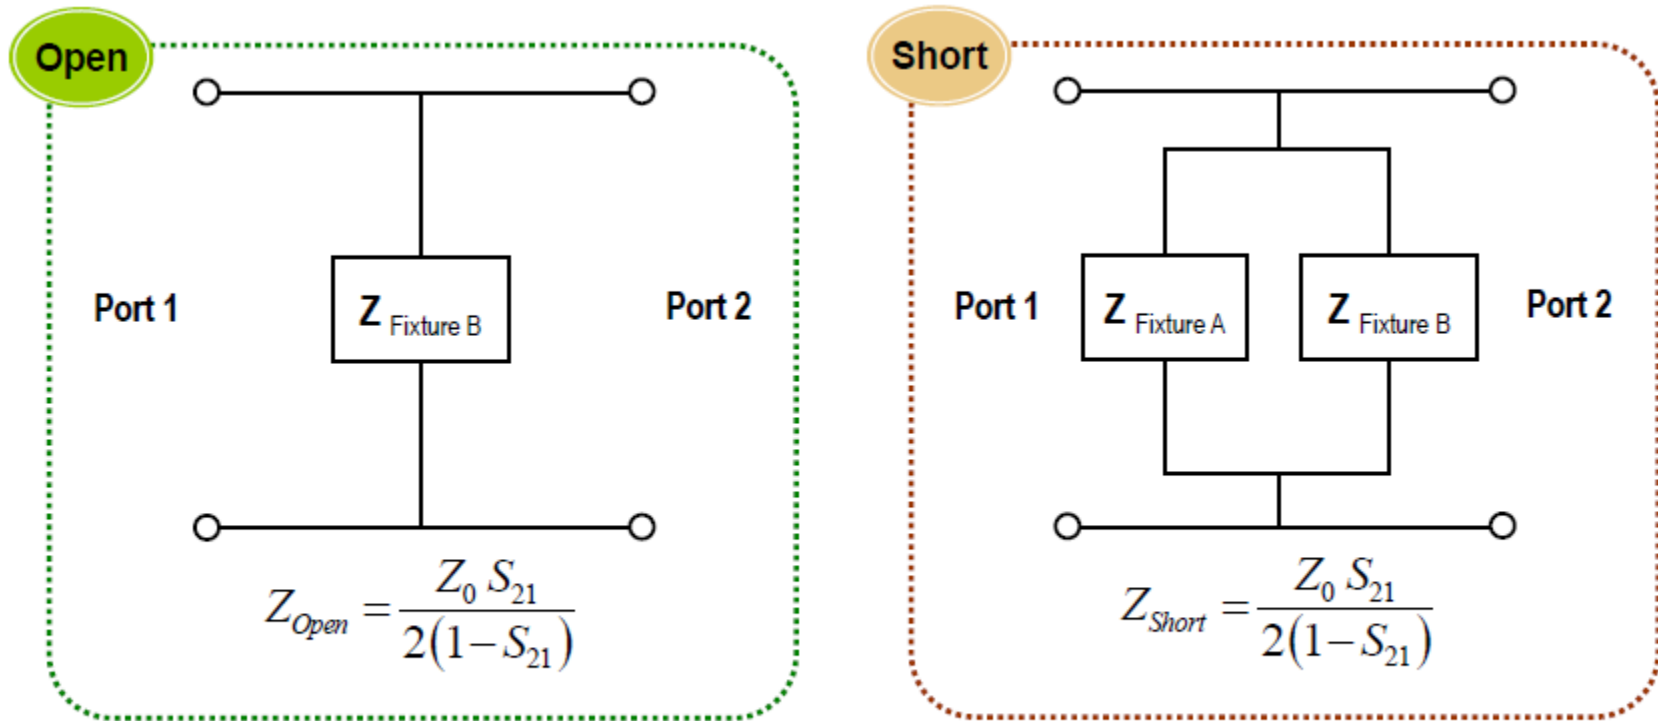

Fig. 3 Block diagram for open & short test board
- Block diagrams for open & short test board are shown in Fig. 3.